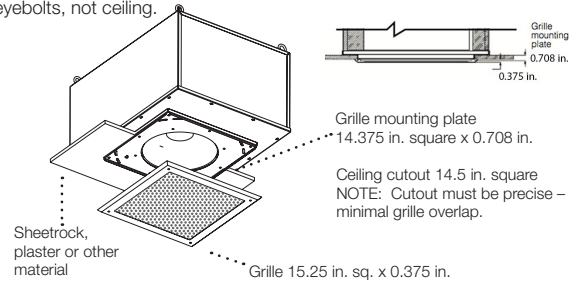

Fig. 3: Typical Wiring
1. Typical Wiring Method (Fig. 3):